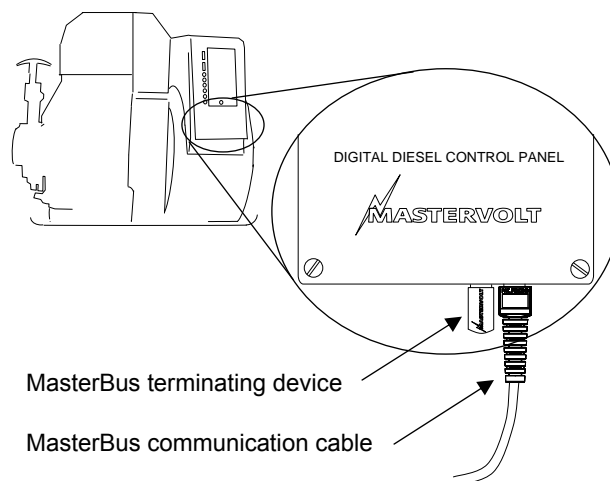

Figure 15
- 1 See figure 15 Insert a MasterBus terminating device into one of both communication ports (it doesn't matter which one) of the Digital Diesel Control Panel on the generating set. Insert the communication cable in the other communication port